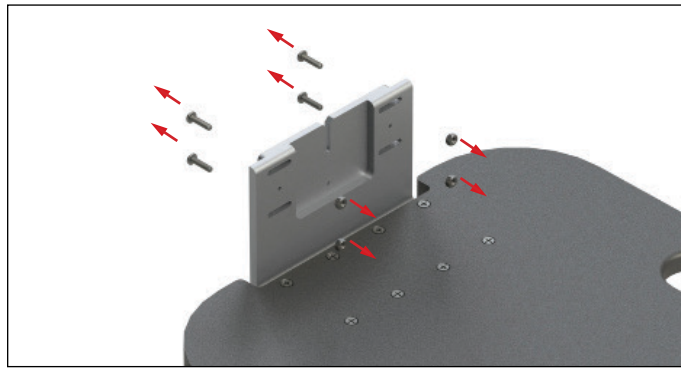

Fig. 2
2. Remove the 4 screws and the 4 nuts using the #3 drive cross-head screw driver and $\frac{7}{16}$ " wrench (Fig. 2).